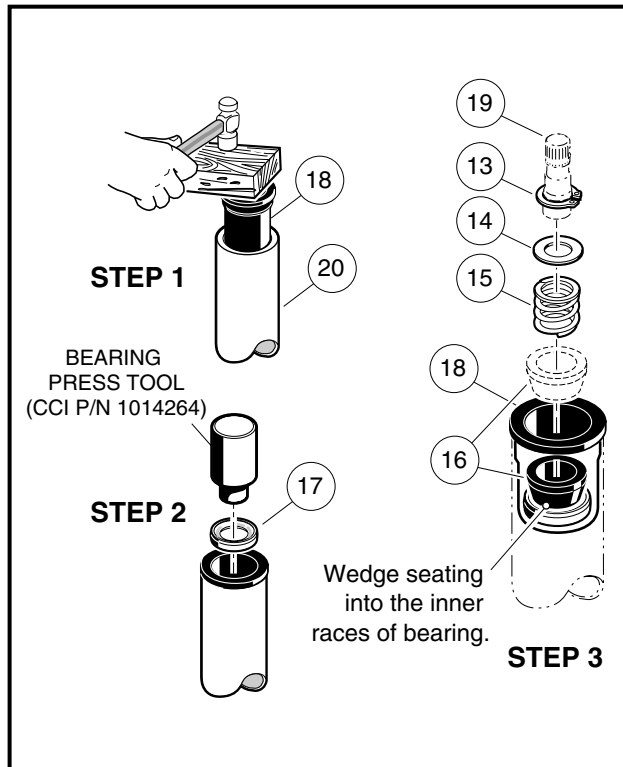

Figure 7-5 Steering Shaft – Bottom End
1. Insert bearing seat (18) into both ends of steering tube (20). Place a block of wood on bearing seat and tap lightly on block until bearing seat (18) is fully seated in steering tube (20) (**Figure 7-5, Page 7-7**).
2. Press the bearing (17) all the way into the bearing seat (18) using a steering column bearing press tool (CCI P/N 1014264) or a metal tube approximately six inches (15.2 cm) long with a maximum outer diameter of 1-3/16 inches (3.3 cm) and a minimum inside diameter of 7/8 inch (2.2 cm). Be sure the bearing is installed in the bearing seat as shown (**Figure 7-5, Page 7-7**) so the wedge (16) will ride against the inner race of the bearing.
3. Install the wedge (16), spring (15), washer (14), and snap ring (13) onto the bottom end of the steering shaft (19) (**Figure 7-5, Page 7-7**).